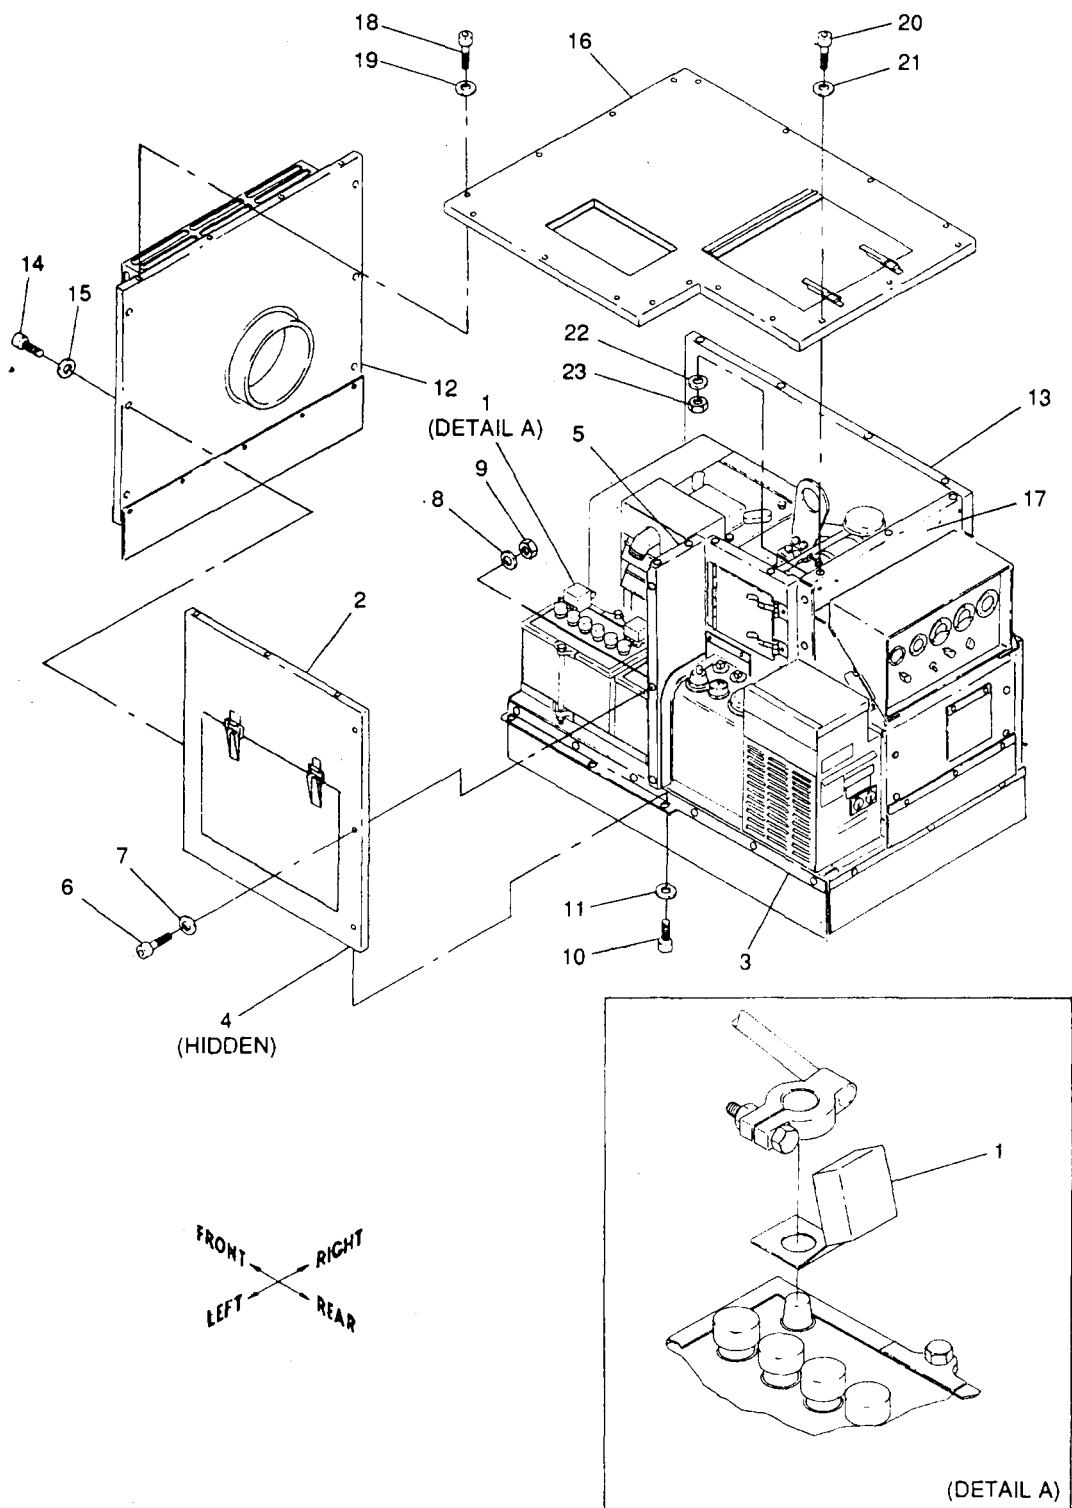

Figure 10-5. Installation of Left Panel, Front Panel and Top Panel Assemblies
11.	Top Panel (16, fig. 10-5)
(1) Refer to figure 10-5 and install battery terminal covers (1) (listed in Table 10-1, item 8). Disconnect cable clamps from battery terminals. Place 4 each terminal covers (1) over battery terminals (2 red terminal covers for positive battery terminals and 2 black terminal covers for negative battery terminals). Reconnect cable clamps to battery terminals. Cover cable clamps with terminal covers (1).
(2) Clear out acoustic fill from holes in left panel assembly (2) using 3/8 inch diameter pin.
(3) Locate left panel assembly (2) on left support assembly (3) by aligning captive nuts (4) in panel with holes in left support assembly (3).
(4) Install left panel assembly (2) to side closure assembly (5) with three screws (6), six washers (7 and 8) and three locknuts (9) and to left support assembly (3) with three screws (10) and three washers (11) (listed in table 10-1, item 8.)
(5) Torque screws (10) to 18 \pm 2 in.-lbs dry.
(6) Torque screws (6) to 16 \pm 2 ft-lbs dry.
(1) Refer to figure 10-5 and clear out acoustic fill from holes in front panel assembly (12) using 3/8 inch diameter pin.
(2) Install front panel assembly (12) to right panel assembly (13) and left panel assembly (2) with six screws (14) and six washers (15) (as listed in table 10-1, item 10). Start all screws by hand first.
(3) Torque screws (14) to 18 \pm 2 in.-lbs dry.
(1) Refer to figure 10-5 and clear out acoustic fill from holes in top panel assembly (16) using 3/8 inch diameter pin.